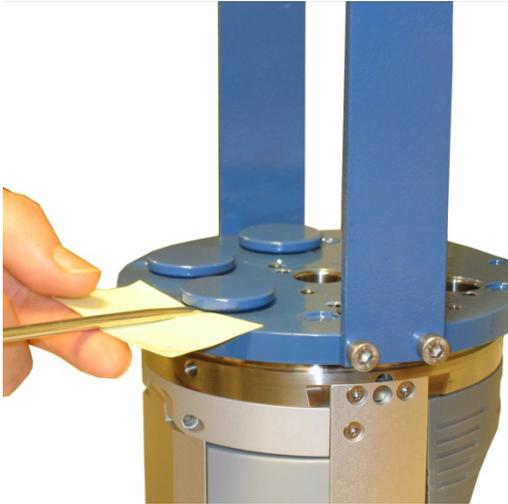

Figure7-10 Removal of sealing plug. Loosen the set screw. Use a small bit of paper/ cardboard to protect the top end plate.
4. Pull up the sealing plug. Clean the boreholes (**Figure7-10**)
2. Remove sealing plug on top end plate marked with Electrical terminal in **Figure7-10**